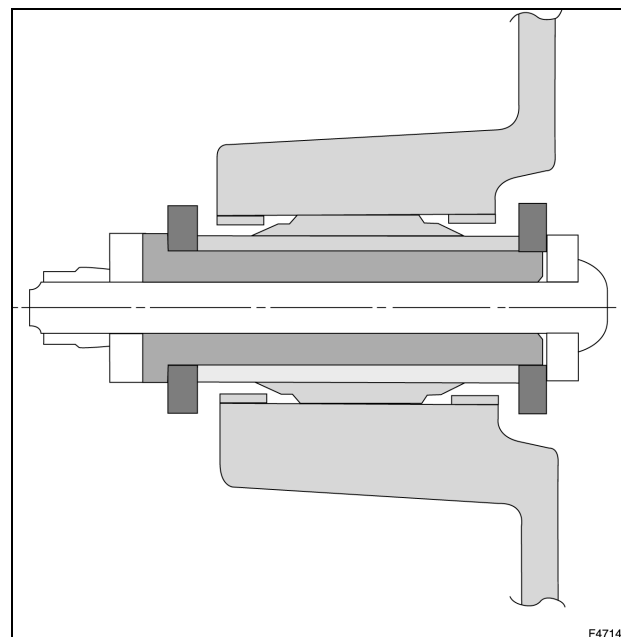

Figure 46 – Completed Carbody Rod Bushing
- Apply the opposing retaining ring. Finished bushing assembly should resemble Figure 46.